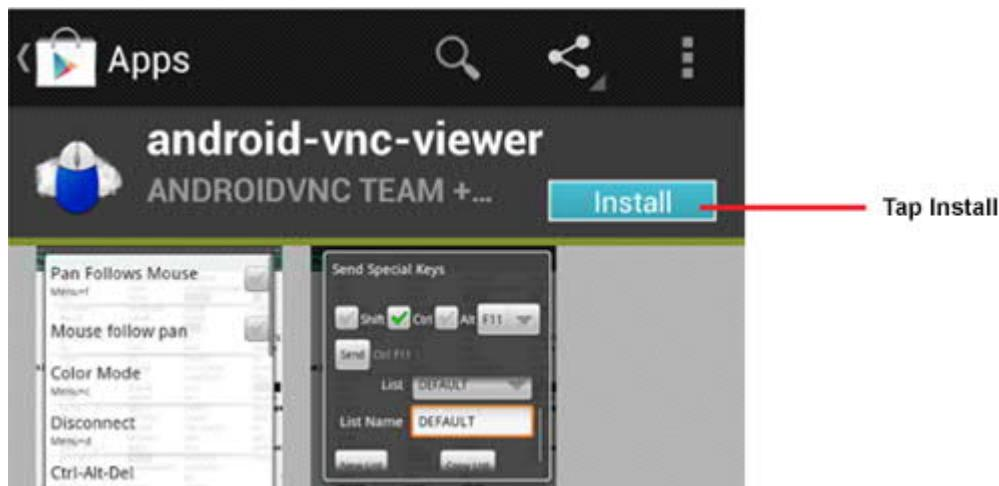

Figure 61: *Android-vnc-viewer* Install Screen
9. Install the VNC software by searching and installing from the Google Play store. Search for *Android-vnc-viewer* and install the application by tapping on the Install button. (Figure 61)